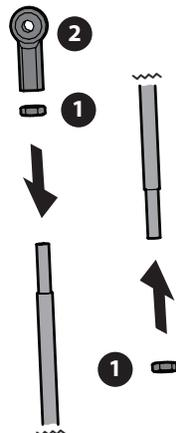

Figure 9
- Install one hex jam nut (712-0314) each to both ends of discharge rod (747-08930). See (1) in Figure 9.
- Place rod end (723-04077) on one end of discharge rod assembly. See (2) in Figure 9.